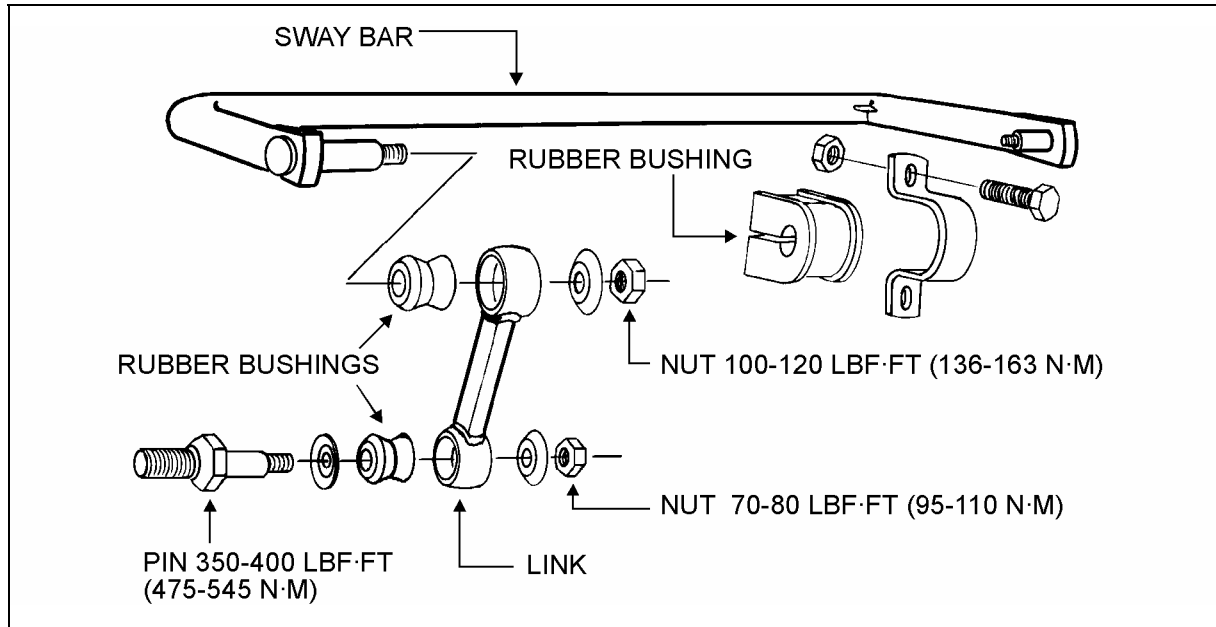

FIGURE 10: SWAY BAR
A sway bar is provided on the front and drive axles to increase vehicle stability. It controls lateral motion (swaying movement) of vehicle (Fig. 10).
2. Tighten the eight bushing collar nuts to 70 - 80 ft•lbf (95 - 110 N•m) (Fig. 10).
3. Tighten sway bar link upper nuts to 100 - 120 ft•lbf (136 - 163 N•m) and lower nuts to 70 - 80 ft•lbf (95 - 110 N•m) (Fig. 10).